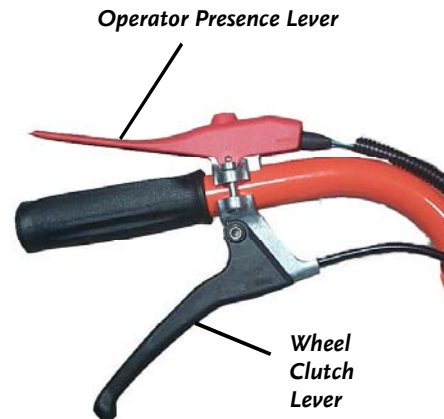
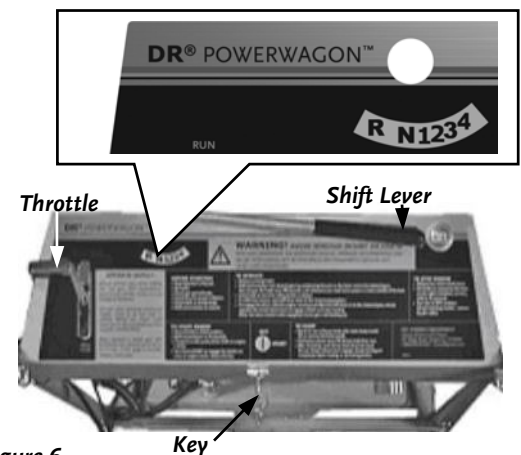

Figure 4
Figure 6
NOTE: The DR POWERWAGON-PREMIER is equipped with an Operator Presence Control for added safety. The Operator Presence Lever must be depressed whenever the Shift Lever is in gear, or the engine will stop. You may run the engine without depressing the Operator Presence Lever (**Figure 4**) only if the Shift Lever is in the "N" (Neutral) position (**Figure 6**).
1. Move the Shift Lever to the "N" (Neutral) position (**Figure 6**).
4. Turn the Key to the START position (**Figure 6**). As soon as the engine starts, release the Key, and it will return to the RUN position.
1. Move the Shift Lever to the "N" (Neutral) position (**Figure 6** on page 13).
4. Turn the Key to the RUN position (**Figure 6** on page 13).
6. After the engine starts, move the Throttle Lever (**Figure 6** on page 13) to the desired Engine speed.
1. With the Operator Presence Lever depressed (**Figure 4** on page 13), move the Shift Lever to the desired gear.
1. Release the Wheel Clutch Lever (*Figure 4* on page 13) and move the Throttle to the Idle/Stop position (*Figure 6* on page 13).
3. Shift to "N" (Neutral, *Figure 6* on page 13).